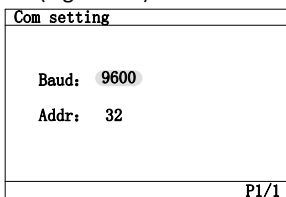

Figure 3.2 – Selecting Baud Rate and Modbus ID
- 7.) Communication Parameter Setting: The communication baud rate and Modbus address can be set in this menu (Figure 3.2):